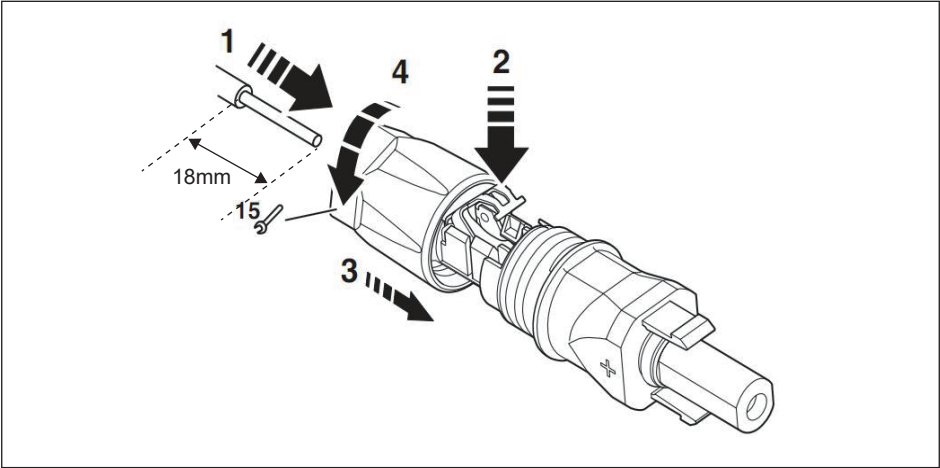
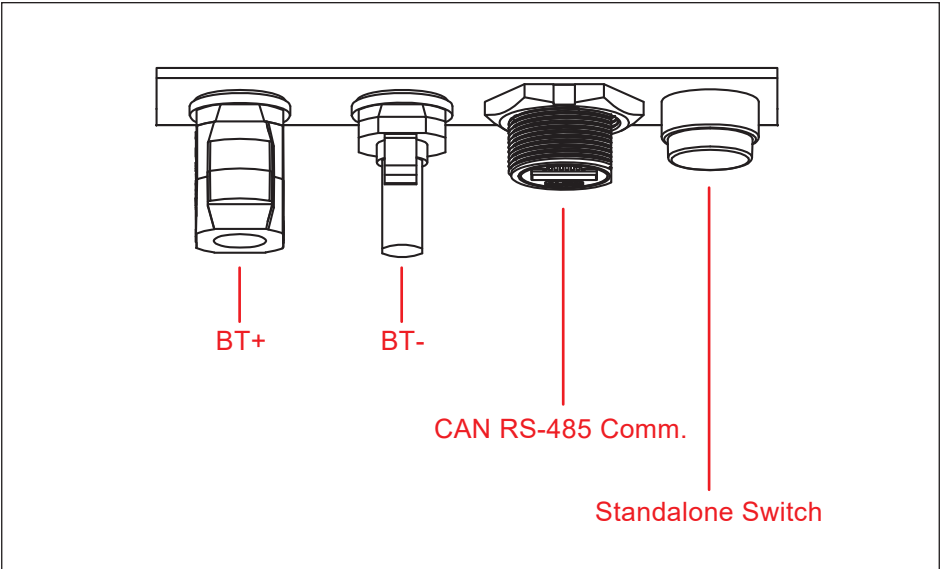

Figure 3-7 : Assemble the DC Connector
Figure 3-8 : Connectors on Cabinet (Zooming from Figure 2-3)
- DC cable adapter must be assembled as depicted in **Figure 3-7**.
- DC connectors are applied to DC Terminals connection as seen in **Figure 3-8**.
- It is important to choose the correct DC connectors for positive terminal and negative terminal. Please refer to **Figure 3-7** and **Figure 3-8**.
Figure 3-7 depicts the procedure listed above.
The following figure shows communication location of DELTA BX_6.0 Battery Pack on one side of the battery cabinet. The table describes the CAN and RS-485 communication definition of the port. Please note that DC connector at both sides of the battery cabinet have the same function. User can either plug-in DC cables from left side or right side of the cabinet. Please refer to **Figure 3-8**.
The standalone switch on the right side of the **Figure 3-8** .